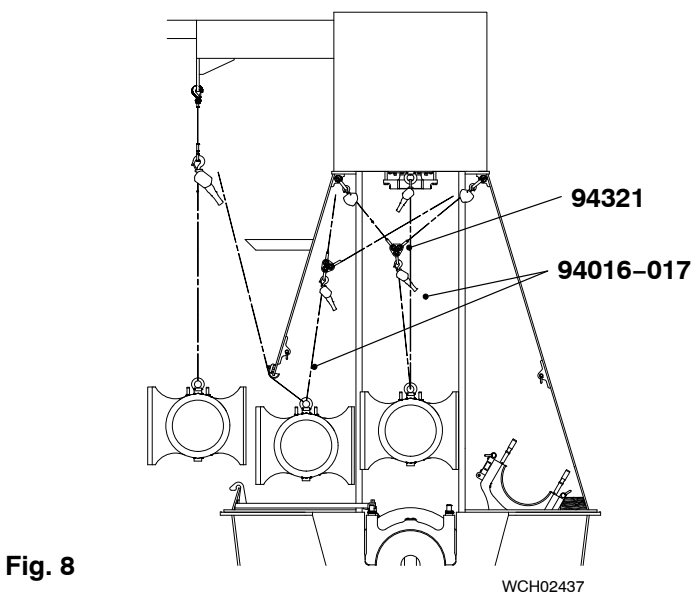

Fig. 8
- 3) Attach the two manual ratchets (94016-017, Fig. 8) to the eye bolt on the guide shoe.